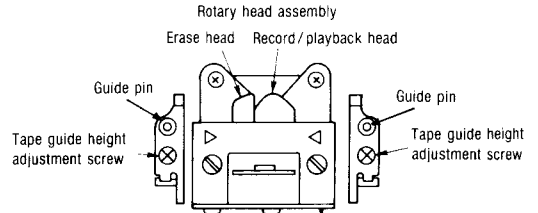

Fig. 2
1. Turn the tape guide height adjustment until the upper end face of the tape guide are aligned on the same plane as the top face of their respective guide pins. (Refer to Figs. 2 and 3).